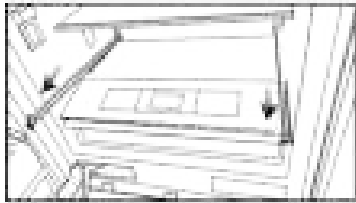

*Figure 1*
- Pull the sliding rails out completely (see *Figure 1*).